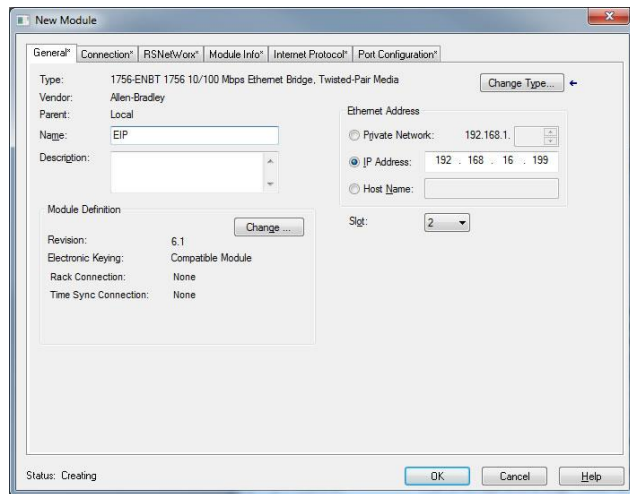

Figure 15: Identifying the New Module
- 6) The “New Module” window will open. Refer to Figure 15.